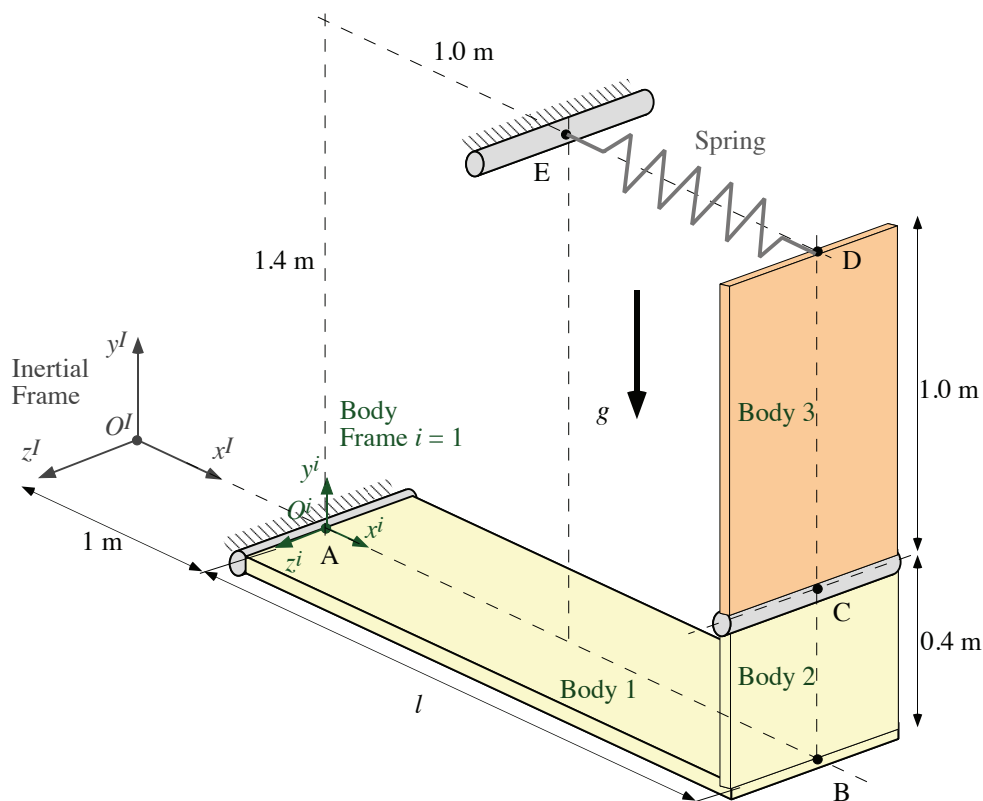
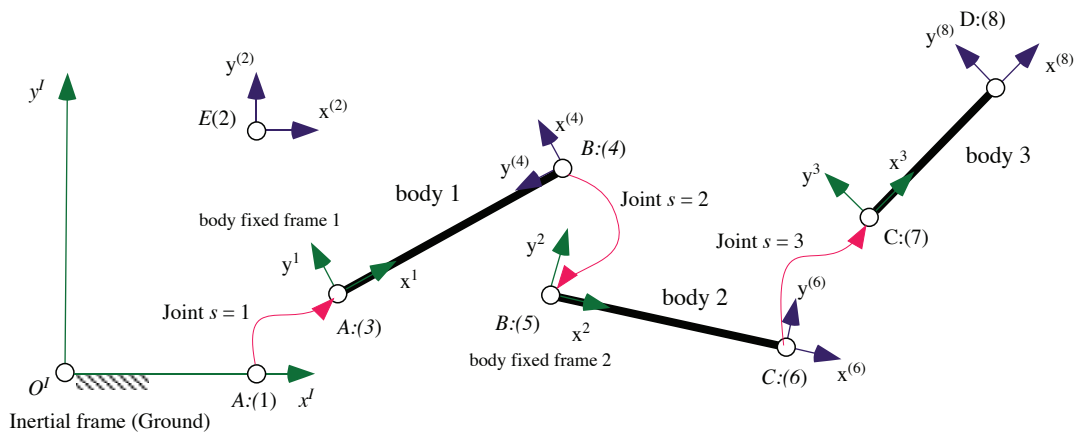

Fig 1: Example rigid 3 body MBS with spring
Fig 2: MBS sketch of the 3 body system
The initial conditions are shown in the Fig. 1.
- b) Setup a MBS model, use Fig. 2 for any package and simulate the motion over 15 sec. Fig. 1 shows the initial conditions.